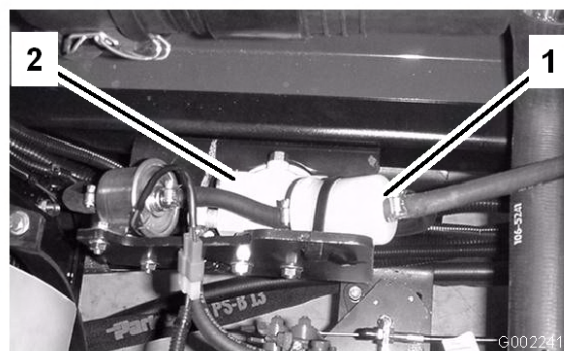

Figure 44
4. Loosen and slide the hose clamps away from the filter (Figure 44).